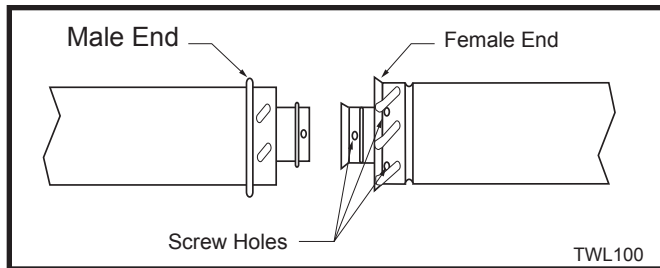

Fig. 17 Twist-lock pipe joints.
To join twist lock pipes together, simply align the beads of the male end with the grooves of the female end, twisting the pipe until the flange on the female end contacts external flange on the male end. It is recommended that you secure the joints with three (3) sheet metal screws, however, this is not mandatory with twist lock pipe. (Fig. 17)